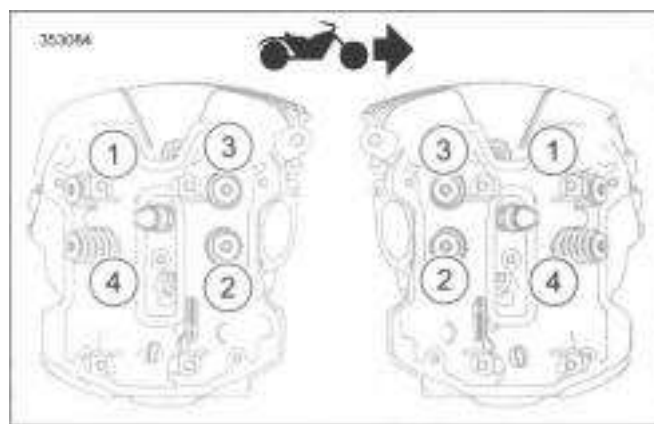

Figure 4-28. Head Bolt Tightening Sequence
2. See Figure 4-28. Discard cylinder head bolts.
5. See Figure 4-28 .Tighten **new** head nuts in five stages following sequence shown.